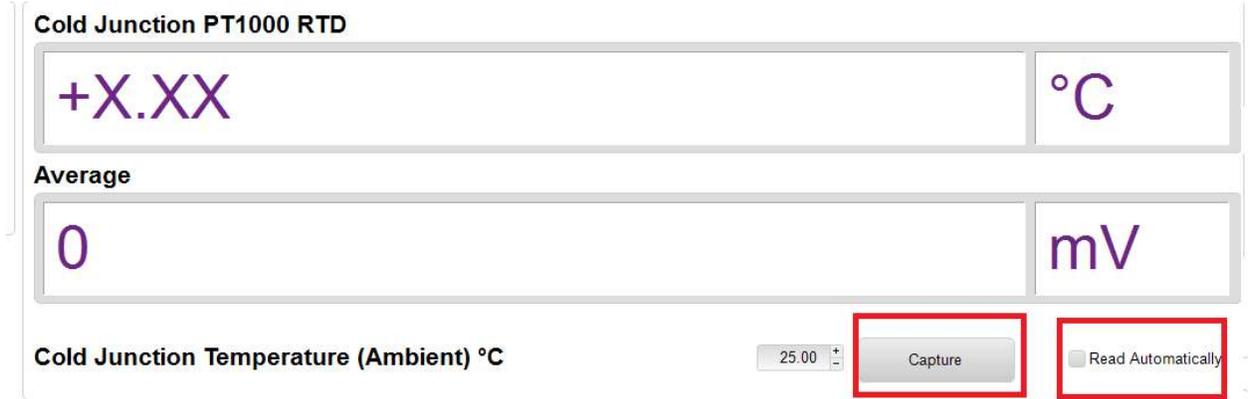

Figure 8
- c. Single Capture/ Read Automatically: As shown in Figure 8, the part can perform a single capture or continuous read as highlighted red box shows.